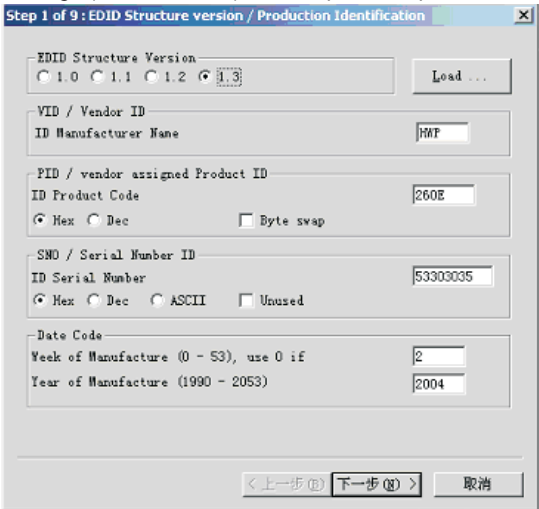

Fig.36
Step 1 of 9 (Digital) as shown in Fig. 36 .